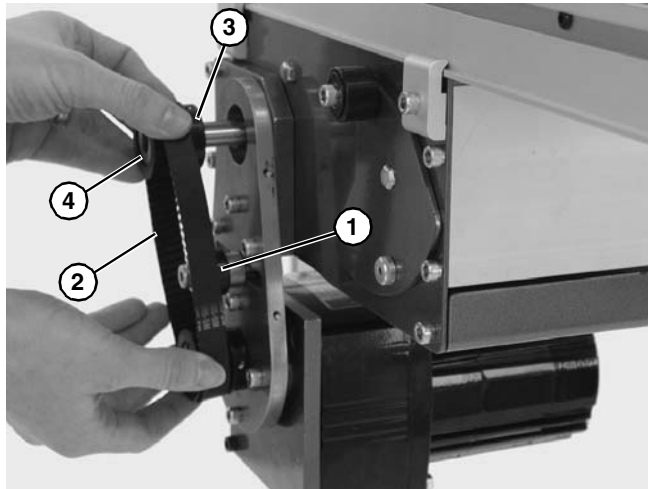

Figure 15
- Loosen tensioner (**Figure 15, item 1**).
- Remove timing belt (**Figure 15, item 2**).
If timing belt does not slide over pulley flange, loosen driven pulley set screws (**Figure 15, item 3**) and remove pulley (**Figure 15, item 4**) with belt (**Figure 15, item 2**). For re-installation, see steps 5 and 6 on page 9.